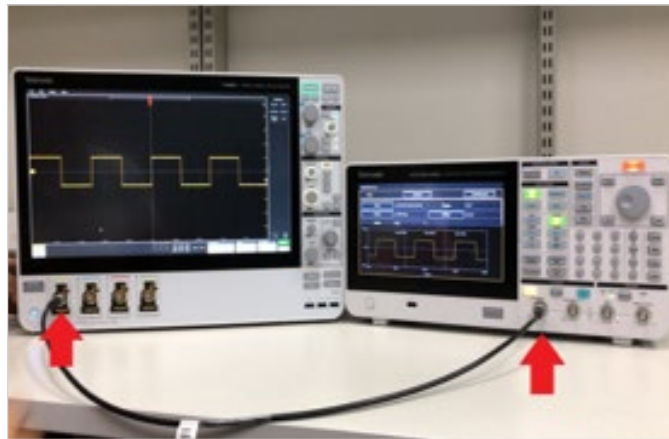

Figure 3. Standard AFG test connection
**Figure 3** shows the standard AFG test connection. It includes three main parts: the AFG instrument, a 50 Ω BNC coaxial cable and the DUT (the oscilloscope is used as the DUT in this photo). The following sections cover building equivalent system models based on **Figure 3** and performing the mathematical calculations.